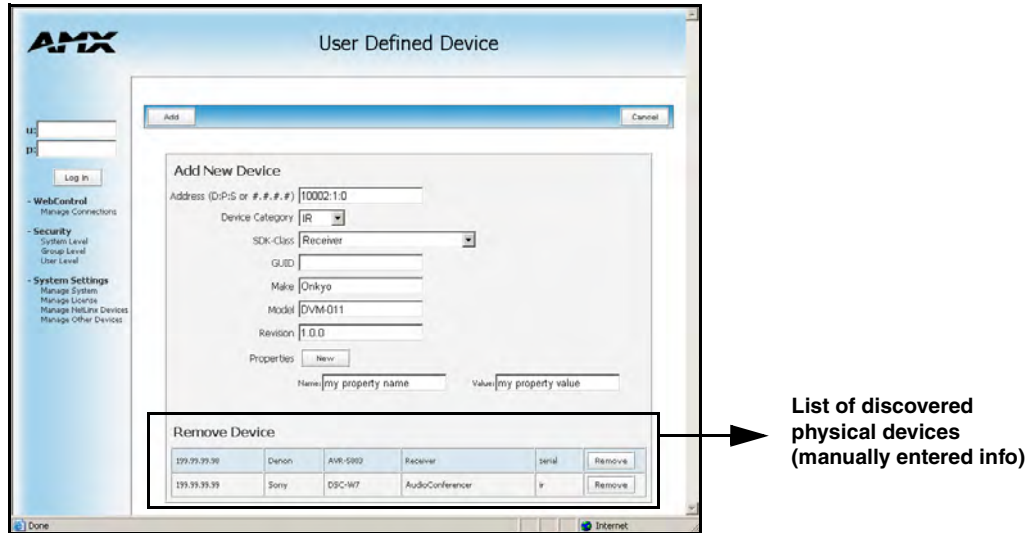

FIG. 85 Add New Device page
This page provides the ability to both add and remove any user-defined devices. Existing user-defined devices are listed at the bottom of the display along with a corresponding **Remove** button alongside each new entry. Although FIG. 85 shows a populated page, by default, all fields are blank and no devices are pre-populated.
- When the **Add** button is selected, the user-defined device is then inserted into the list of discovered physical devices which appears within the lower section of the display (FIG. 85).
- If the device is not DDD enabled and/or cannot be automatically discovered (ex. IR device) the installer must enter the device information into the Master via the User Defined Device Web page under manage Other Devices. (FIG. 85 on page 127)